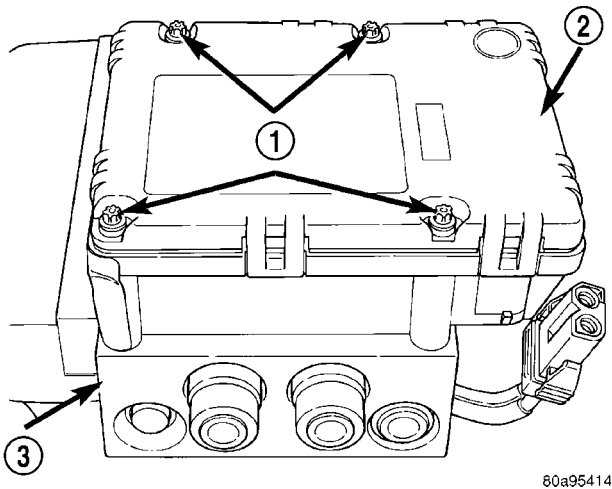

Fig. 20 CAB Attaching Bolts
(3) Remove the 4 bolts (Fig. 20) attaching the CAB to the HCU.
- (2) Install the 4 bolts mounting the CAB (Fig. 20) to the HCU. Tighten the CAB mounting bolts to a torque of 2 N·m (17 in. lbs.).